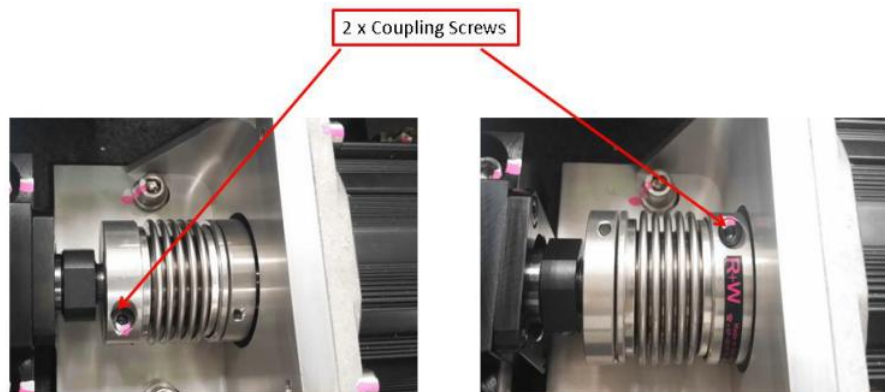

Figure 55 Coupling Screws
59. Tighten back 2 x coupling screws as below Figure 55.